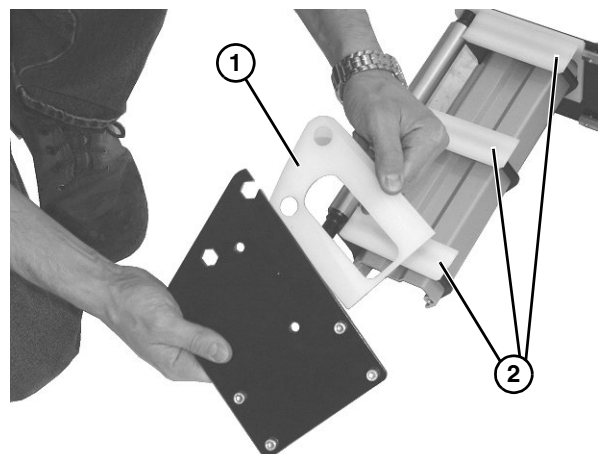

Figure 46
11. Check idler terminal assembly on each side (**Figure 46, item 1**) for wear. If worn, replace.
12. Remove and replace wear guides (**Figure 46, item 2**) if worn. When replacing, secure onto pins on each support plate.